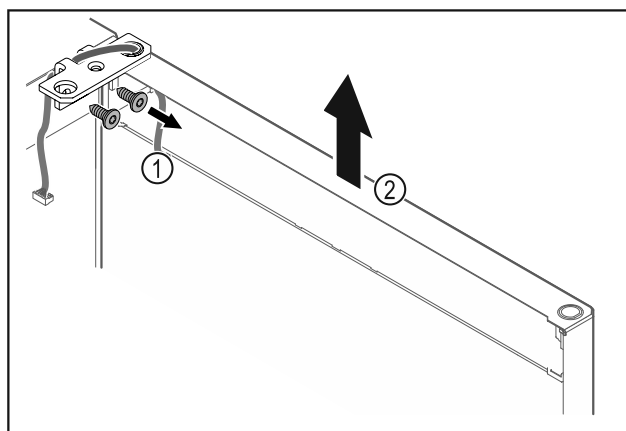

Fig. 22
- ▶ Unscrew the hinge Fig. 22 (1).
- ▶ Lift the door with the hinge straight up by Fig. 22 (2) roughly 200 mm and take it off.